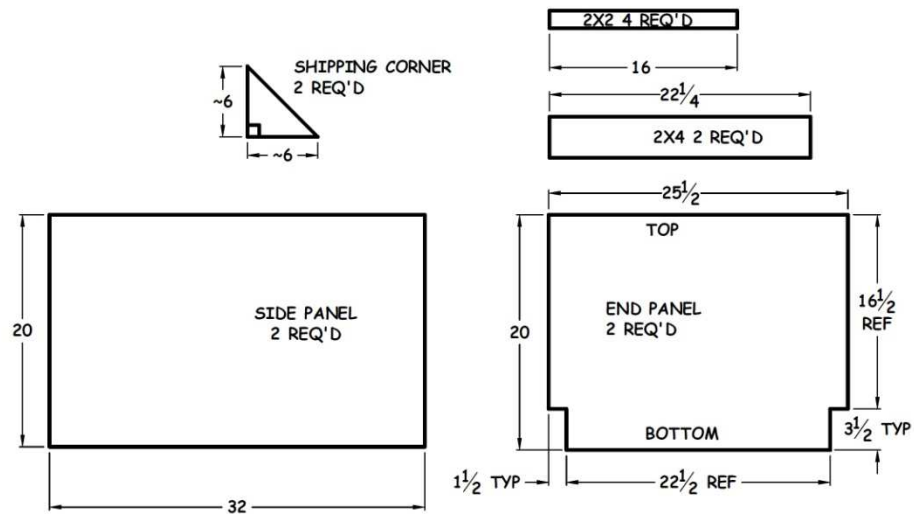
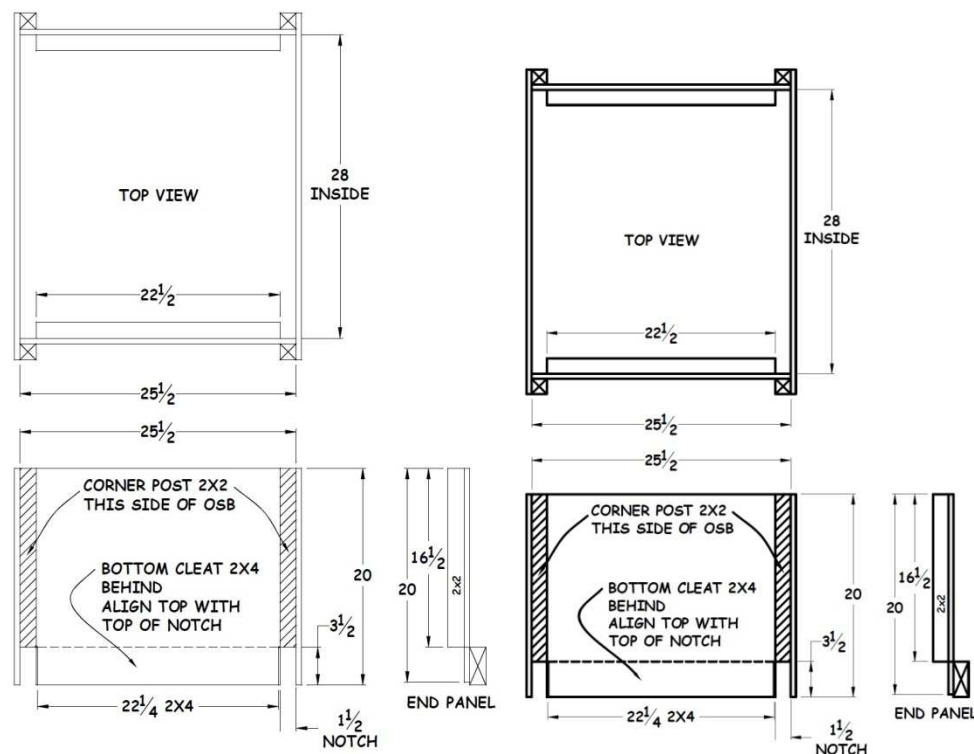

Figure 7-4. House Scuttle Box Cut Diagram.
Figure 7-5. House Scuttle Box Assembly.
1. Typically, the house scuttle box is pre-built and delivered to the site prior to the day it is to be installed. If it has not been built, use the following instructions to build one. See Figure 7-3 for a picture of the finished house scuttle box and Figure 7-4 and Figure 7-5 for a cut diagram and assembly drawing, respectively.
3. Cut notches 3½” high x 1½” long in the long edge of the two End Panels (see Figure 7-4). These will be the bottom edges of the two ends.
4. Refer to Figure 7-5 for Scuttle Box Assembly. On the rough side of the End Panel, attach a 2x2x16" long Corner Post at each end using 1 5/8" sheetrock screws, through the OSB into the 2x2, one 2" from each end and two more roughly equally spaced between. Align the end of each 2x2 flush with the top of the notch, and the long edge flush with the end of the Panel. Repeat for both End Panels.